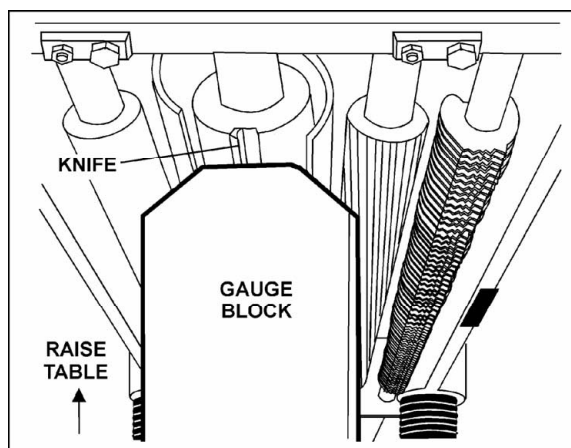

Figure 21
2. Place the gauge block (Figure 21) on the work table directly under the edge of a knife or knife insert as shown. Make slight contact with the knife edge by gently raising the table.